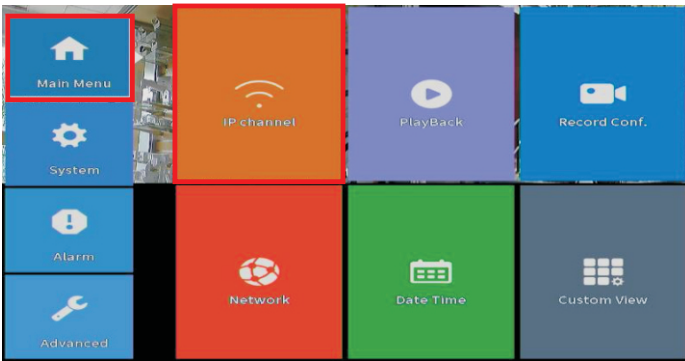

Figure 1. Click on IP Channel.
2. Select the Main Menu and click on IP Channel. Allow the recorder to finish searching and detecting wireless cameras within range. See Figure 1.